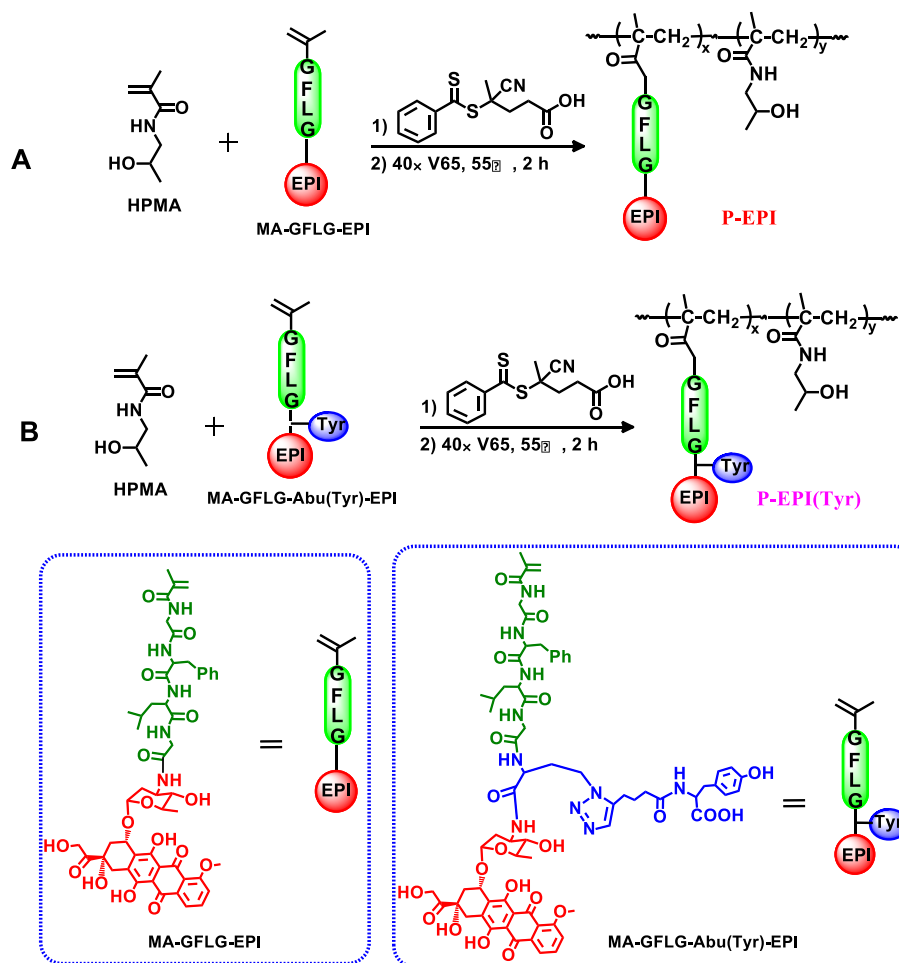

Fig. S4. Synthesis of conjugates P-EPI and P-EPI(Tyr).
4. Synthesis of conjugates P-EPI and P-EPI(Tyr)	(Fig. S4)